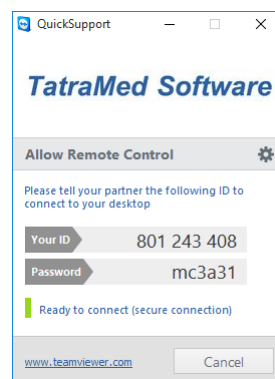

Figure 484 – TeamViewer QuickSupport with your ID and password
2. The **QuickSupport** dialog with ID and password is displayed (see Figure 484).